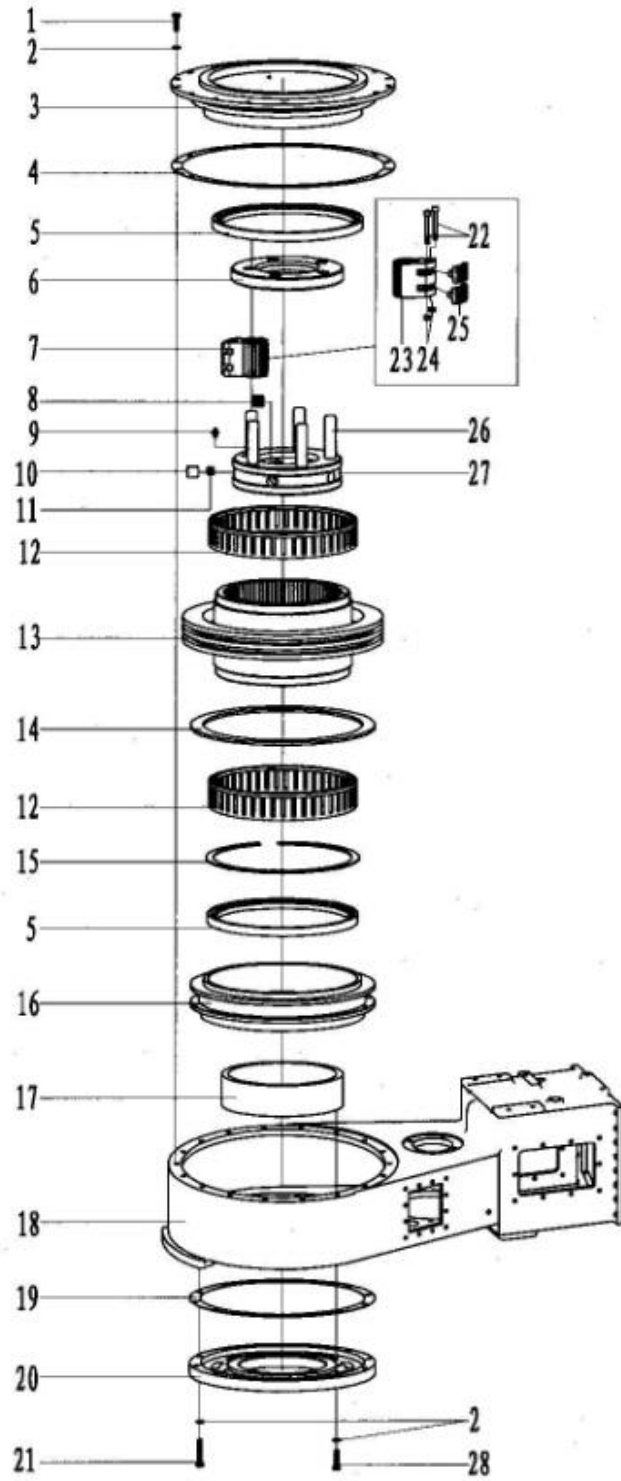

Fig. 17
- 10.4 Assembly of Tong Head ( Fig. 17, Table 4)**
10.4 Assembly of Tong Head ( Fig. 17, Table 4)